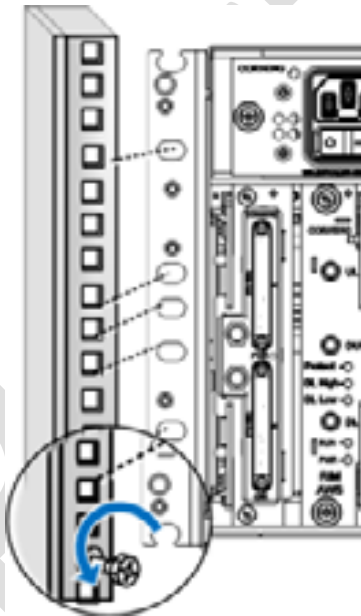

Figure 5-46.Installing Chassis in Rack
2. Referring to Figure 5-46 secure the units' rack ears to the rack frame as follows: